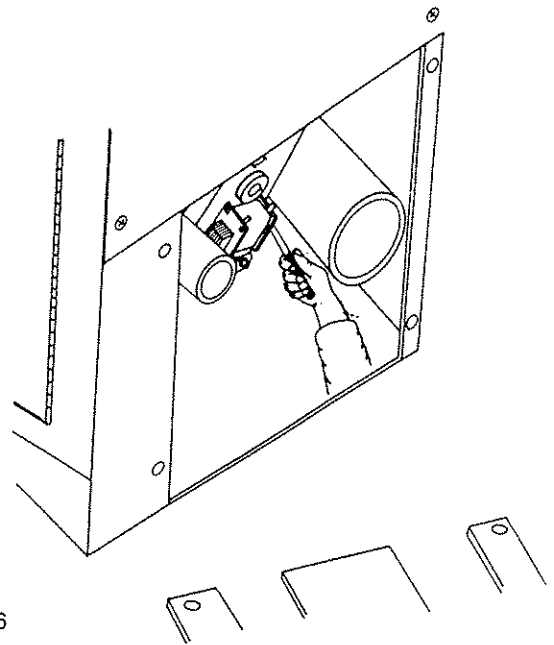

Fig. 46
- E. Place Allen key (not supplied) into motor fixing screw, then turn anticlockwise to loosen motor from bushing, drop out motor when loose. (see fig.46)